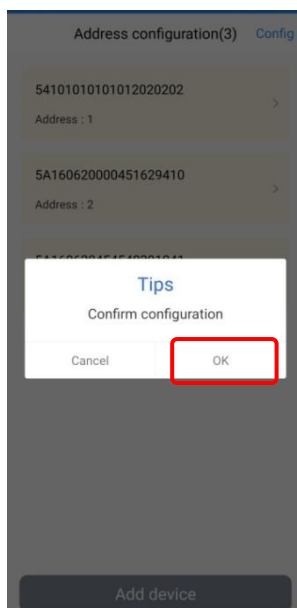

Figure4-25 Confirm configuration page
Step 5 After the address of all DCDC modules is entered, the bottom "**Add device**" button will turn to gray, click "**OK**" to confirm the configuration, as shown in Figure4-25. 30s later, the address setting is completed.